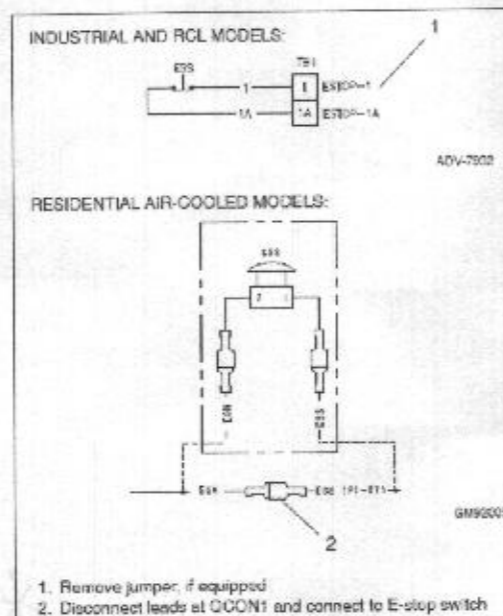

Figure 3 E-Stop Switch Connections to Controllers
- 3.7 Check for a jumper between terminals TB1-1 and 1A and remove it, or disconnect leads ESS and ESN as applicable. See Figure 3.
E-stop switch leads to controller terminals TB1-1 and 1A. See Figure 3.
- 3.8.2 For residential air-cooled generator sets equipped with the RDC2 controller, attach fast-on terminals GM103743-3 and GM103743-4, provided with the kit. Connect the E-stop switch leads to ESS and ESN. See Figure 3.